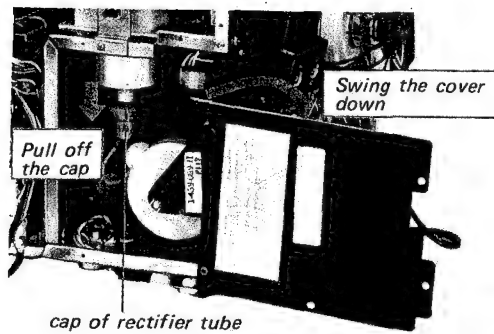

Fig. 2-33.
7. Swing the cover of high voltage cage down as shown in Fig. 2-33.